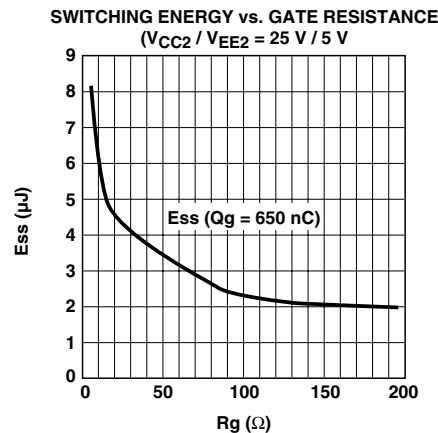

Figure 77. Switching energy plot for calculating average  $P_{switch}$  (for HCPL-316J output driving an IGBT rated at 600 V/100 A).
2. Calculate total power dissipation in the part referring to Figure 77. (Average switching energy supplied to HCPL-316J per cycle vs.  $R_G$  plot);
For  $R_G = 10.5$ , the value read from Figure 77 is  $E_{SWITCH} = 6.05 \mu\text{J}$ . Assume a worst-case average  $I_{CC1} = 16.5 \text{ mA}$  (which is given by the average of  $I_{CC1H}$  and  $I_{CC1L}$ ). Similarly the average  $I_{CC2} = 5.5 \text{ mA}$ .
$P_i = 90.8 \text{ mW}$ ,  $P_o = 314 \text{ mW}$ ,  $T_A = 100^\circ\text{C}$ , and assuming the thermal model shown in Figure 77 below.